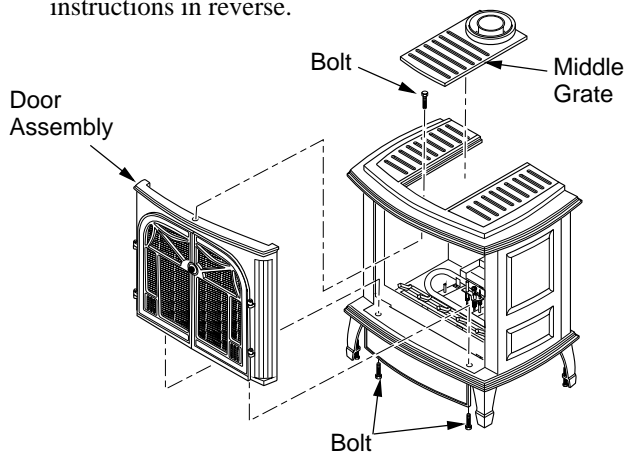

Figure 7 - Removing Door Assembly from Stove
1. Lift middle grate and set aside (see Figure 7).
2. Remove two bolts from bottom of stove using an adjustable wrench or 10 mm socket and one bolt from the top of stove with an M6 allen wrench to remove door assembly (see Figure 7).